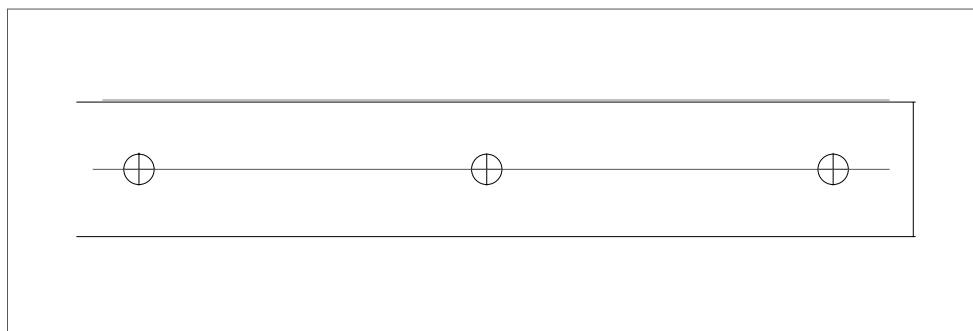

Figure 2
3. Hold the track up to where the pencil line is visible through the holes in the track. (Figure 2).
4. Mark an intersecting line in the center of each track hole. (Figure 2).